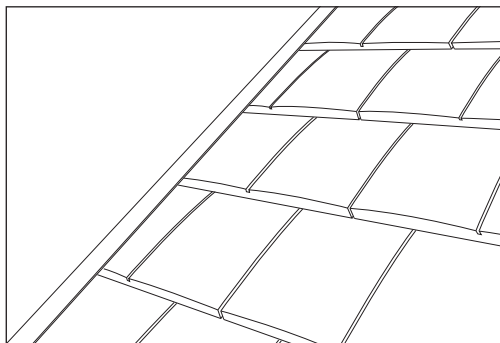

Fig 6 Inserting verge tiles
- 7 Lay Ashmore tiles in the usual manner, ensuring the verge tiles are fully inserted into the verge extrusion and head nailed and clipped (where required) (Fig 6).